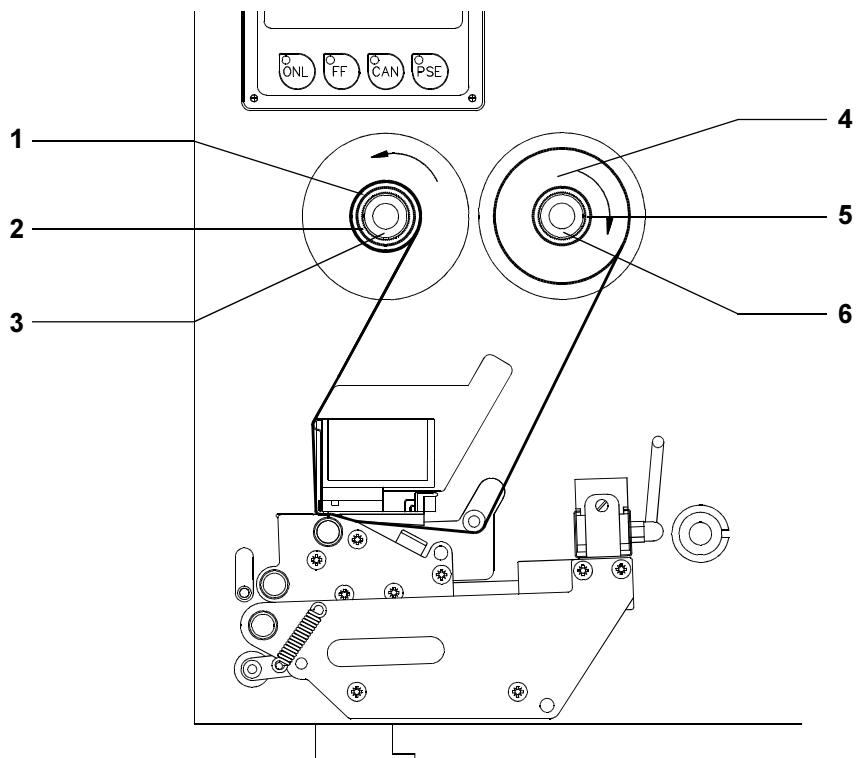

Fig. 7c Loading thermal transfer ribbon
2. Hold tight the ribbon supply hub (5) and rotate the knurled knob (6) clockwise until it stops. That way the transfer ribbon roll (4) will be attached to the ribbon supply hub (5).
3. Slide an empty cardboard core (1) onto the ribbon take up hub (2) and fix it by clockwise turning the knurled knob (3).
4. Feed the transfer ribbon along the path as shown in figure 7c, then attach it to the core (1) using adhesive tape or a label.
5. Turn take up hub (2) counterclockwise in order to smooth and stretch the ribbon.